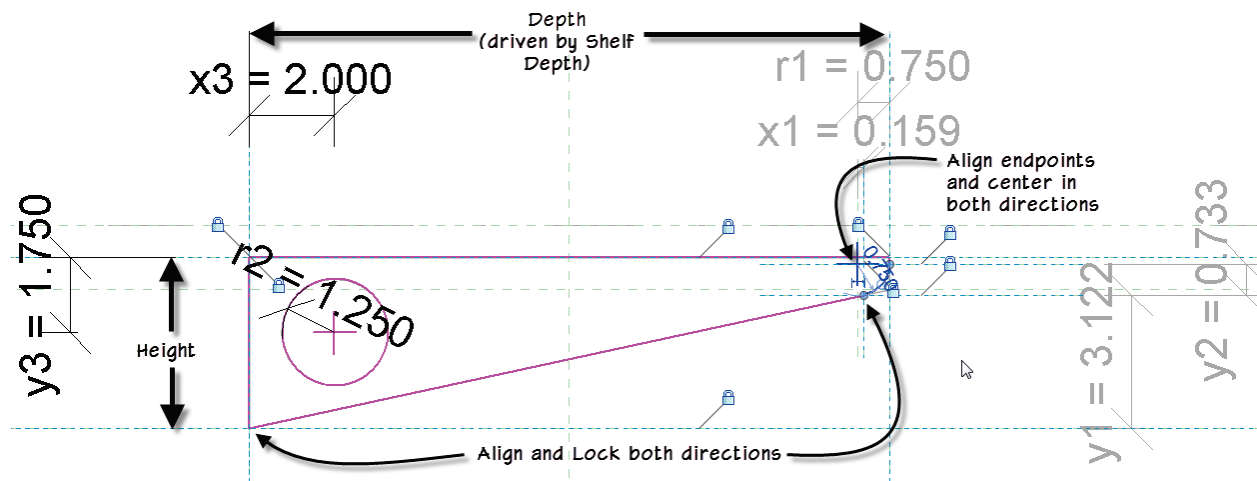

Figure 31—Make sure that all sketch lines are aligned and locked. Lock endpoints of curves and diagonal lines
5. Using the Align tool, lock the endpoints of the curve in both directions to the Ref Planes. Also lock the endpoints of the diagonal line. The other lines are locked already. Also align and lock the center point of the arc (see Figure 31).